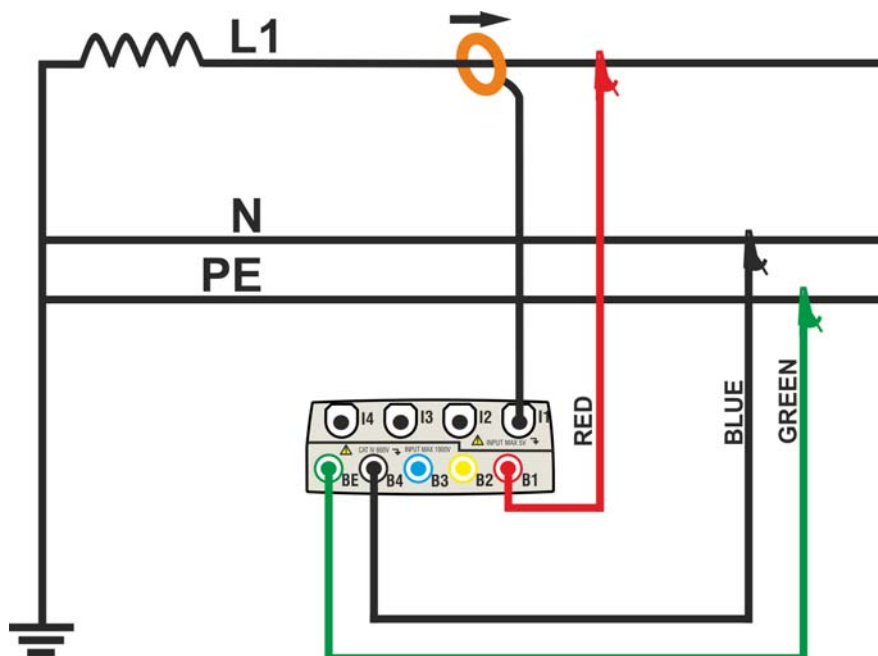

Fig. 115: Meter connection in a Single phase system – ENG\_UK type
2. Connect voltage test leads on Phase, Neutral and Ground cables considering the colours as shown in Fig. 115).
3. Connect the transducer current clamp on L1 Phase cable as shown in Fig. 115) respecting the clamp's arrow direction indicating the current standard sequence from generator to load. **On Real Time Values' section screens always verify the positive value of Active Power and the power factor relative to load which should be normally inductive** before starting a recording. Reverse the clamp by 180 degrees on cables in case of negative readings.